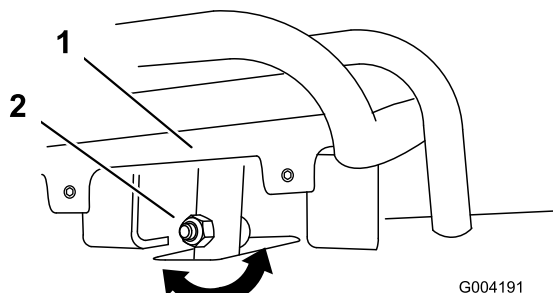
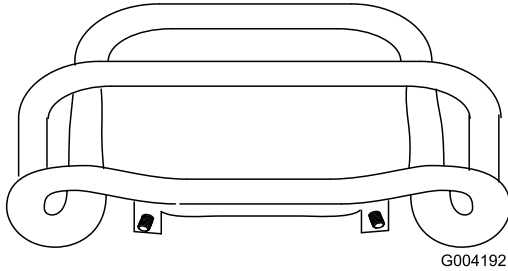

**Figure 54**
Figure 55
4. If the front of the traction control does not rest square and flush with the reference bar, loosen the flange nut and bolt in the stem of the traction control (Figure 54).
5. Adjust the traction control so that it rests flush against the reference bar when it is pulled straight back (Figure 54 and Figure 55).
- C. Loosen the flange nut and bolt in the stem of the traction control (Figure 54).
- I. Adjust the traction control so that it rests flush against the reference bar when it is pulled straight back (Figure 54 and Figure 55).